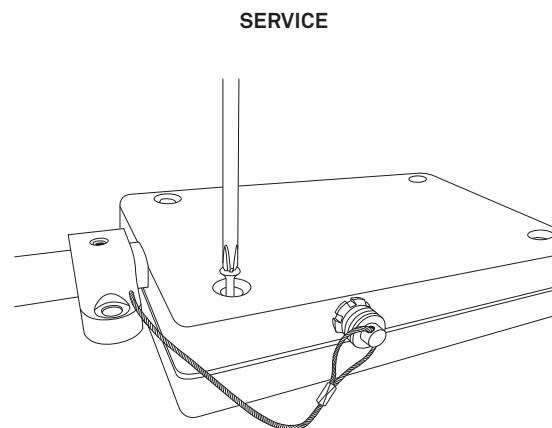

Figure 34 Remove screws and washers from the back of the LP-80
2. Use the included Phillips screwdriver to remove the four screws and washers (Figure 34).